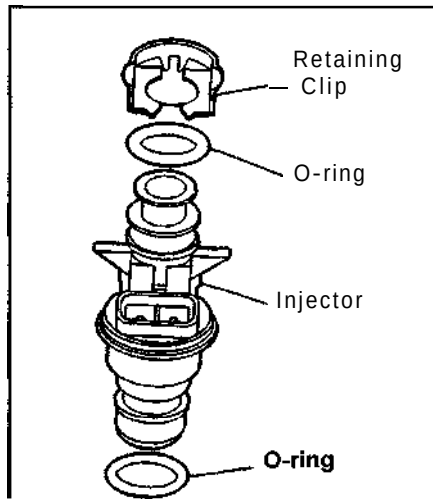

Fig. 60 Exploded view of an injector
- ◆ See Figures 60, 61, 71 and 72